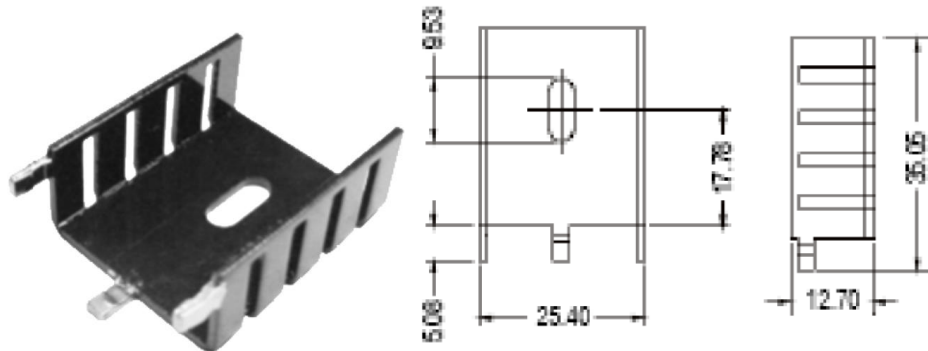

Fig. 4. Stamped standard Board level Aluminium Heat sink
- Transient Thermal Impedance Junction-to-Case at 50Khz 0.5 duty cycle (Z_{thc}) = 0.6°C/W (From fig 4. Max transient thermal impedance).
The selected Heat sink is a Stamped standard Board level Aluminium Heat sink as shown in Fig below (Part Number: **ATS-PCB1037**). Heat sink thermal Impedance (Case to ambient) (Z_a)= 18°C/W. The dimensions are specified in the Fig. 4..
- The selected Heat sink is a Stamped standard Board level Aluminium Heat sink as shown in Fig below (Part Number: **ATS-PCB1037**). Heat sink thermal Impedance (Case to ambient) (Z_a)= 18°C/W. The dimensions are specified in the Fig. 4.